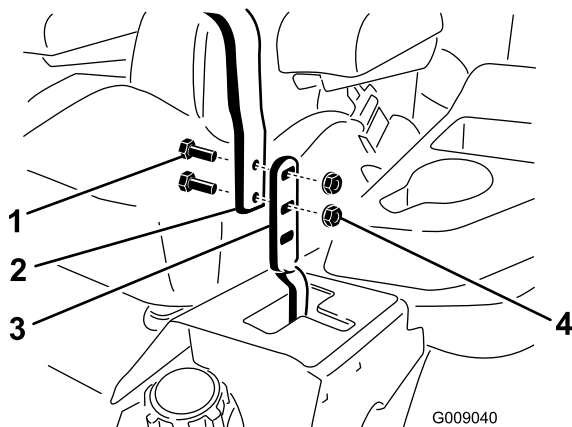

Figure 64
3. Loosen the bolts and flange nuts installed in the levers (Figure 64).